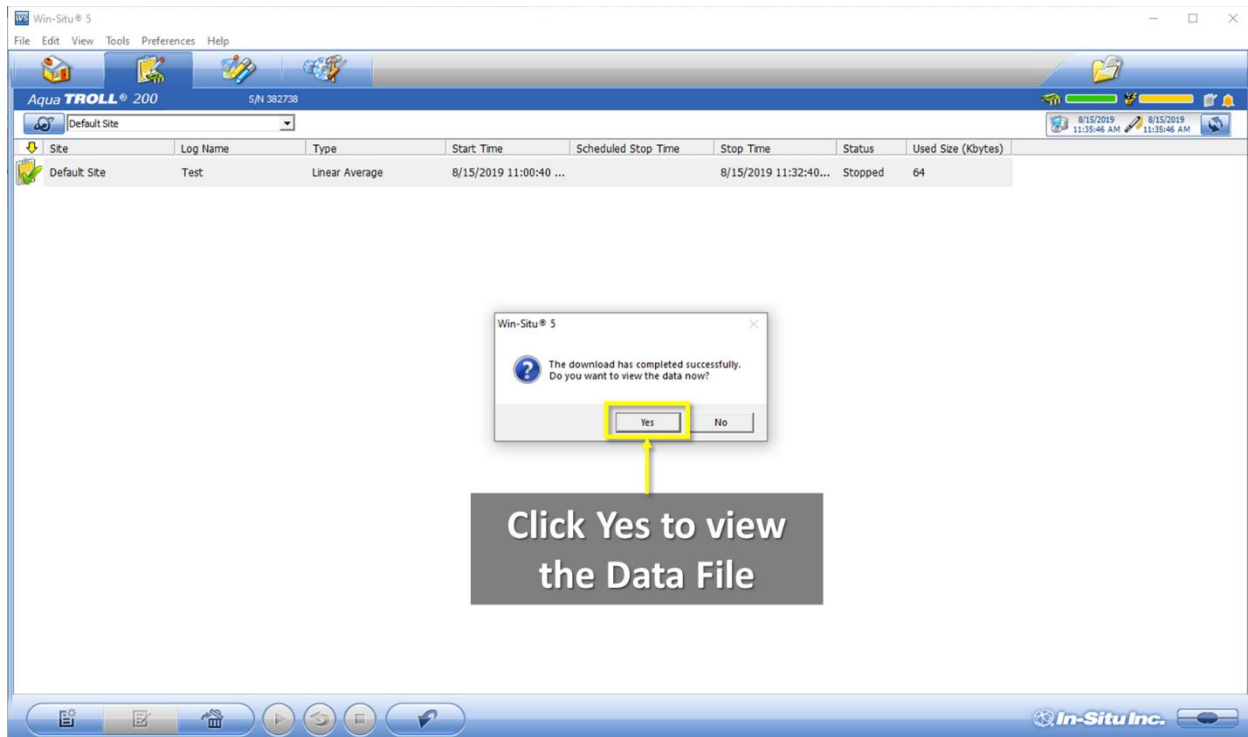

Figure 28. Click "Yes" to View the Data
- Another pop-up window appears to ask if you want to view the data. Click “Yes” to view the data file (Figure 28).